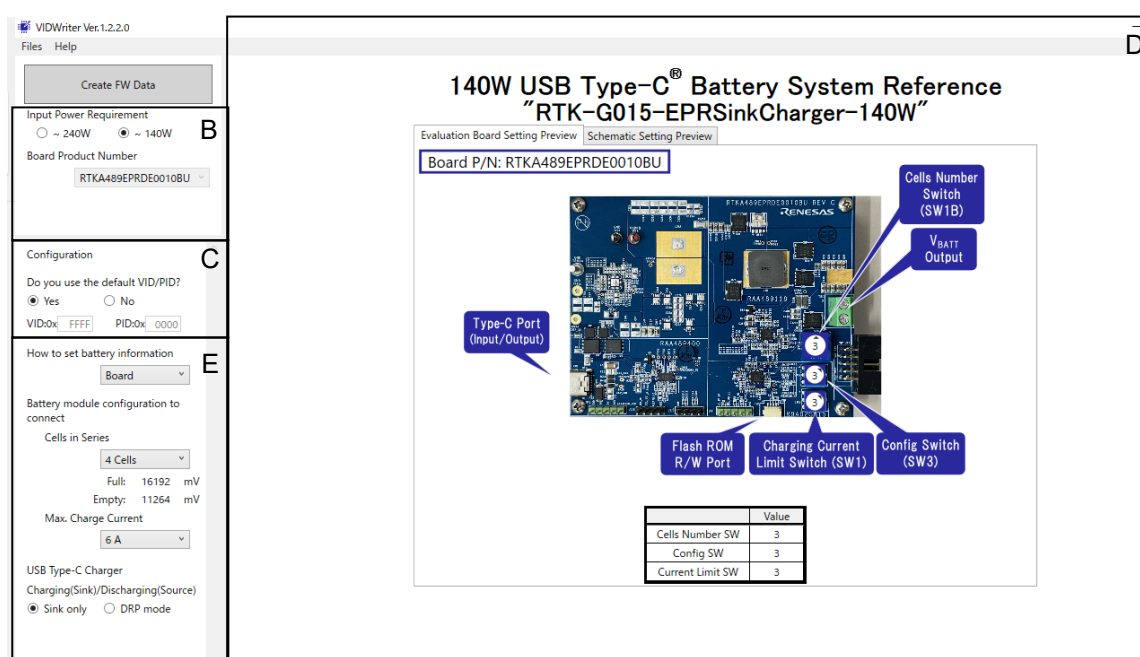

Figure 11. Main Window for VIDWriter 1.2.2.0 after Product Configuration
5. Field E configures the turnkey solution recommended by Renesas – Use Field E to set the Full, Empty, Max Charging Current, and Max sourcing PDP (DRP mode). There are three operating modes: **Board**, **BMS**, and **Manual**. The default firmware uses **Board** and **BMS** mode, in which the switches on the board configure the EVB parameters. **BMS** sets EVB parameters by battery status information from BMS. **Manual** can set EVB parameters directly using the VIDWriter. After setting in Field E, Field D indicates the appropriate physical settings on the EVB. Next, set the switches on the board according to Figure 11.